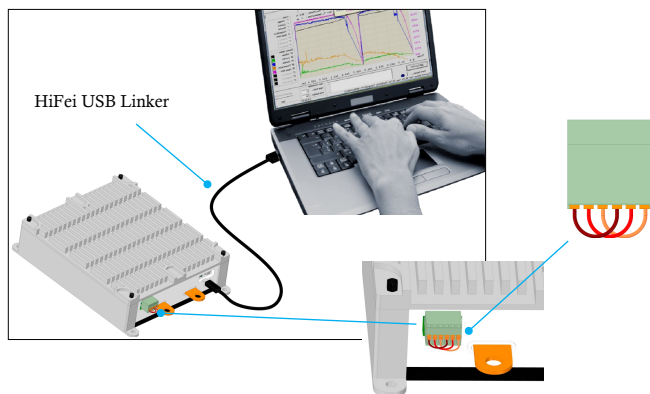

Fig. 6: Wiring Diagram of Firmware Upgrade
The Fulcrum III SHV ESC's firmware can be upgraded if there is a new firmware for the ESC be released. Before upgrade the ESC, there are 3 wires of 6P plug have to be shortened as Fig. 6, and connect the Fulcrum ESC to computer with HiFei USB Linker.
- Connecting the cable to ESC and WiFi dongle (Figure 6)